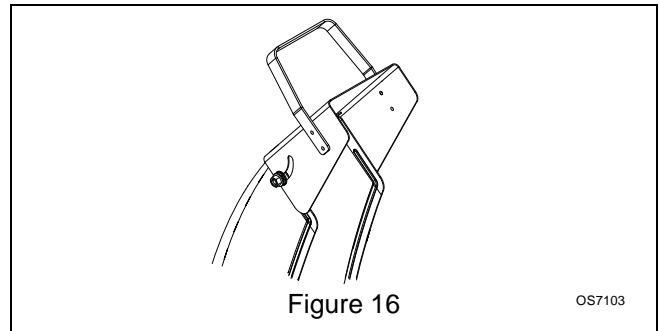

Figure 16
2. Pull deflector handle up or to the rear to throw snow higher (Figure 16).